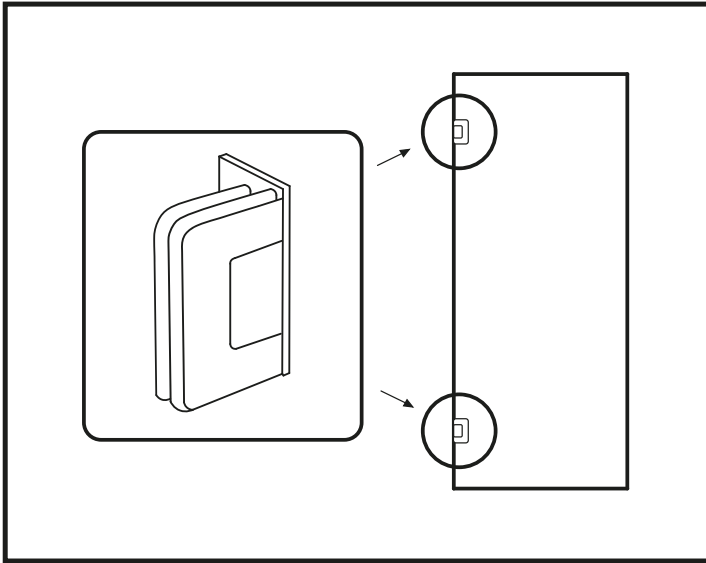

Figure 11
27. Take the hinges included in the kit and attach them to the door glass using the screws provided. (Figure 11)